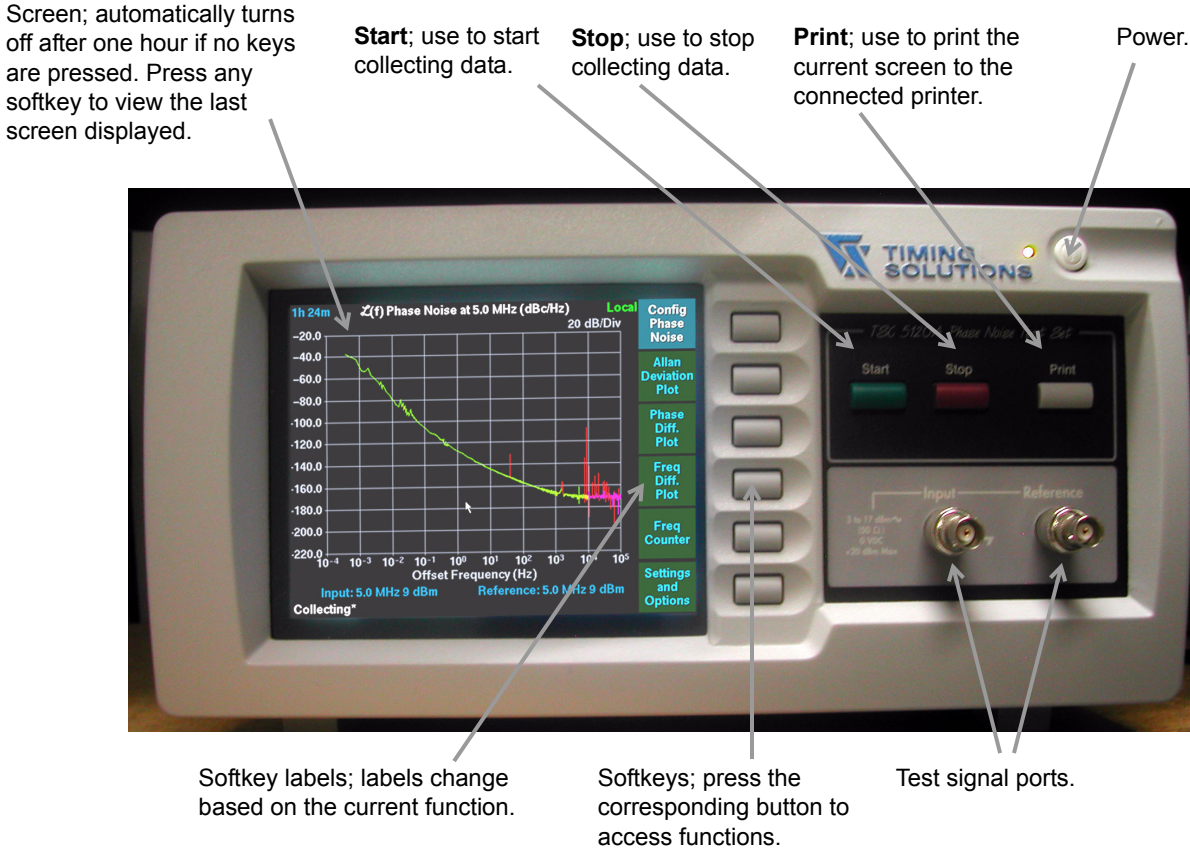
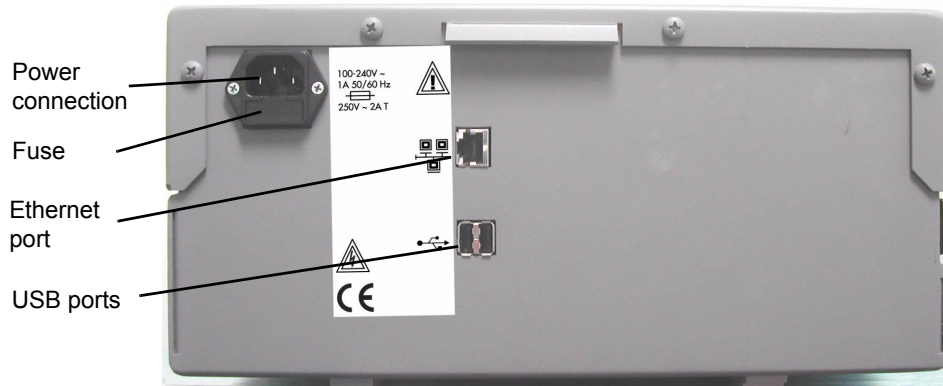
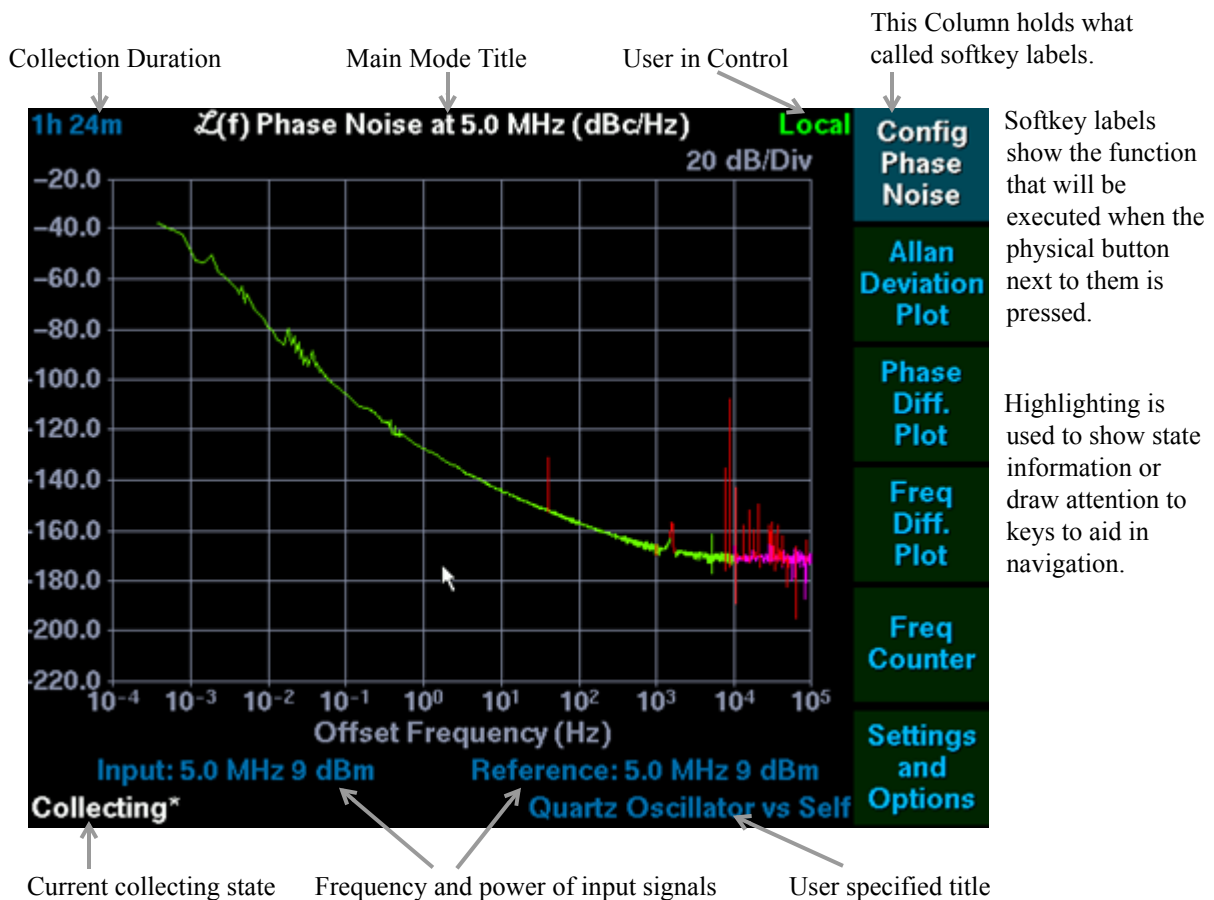
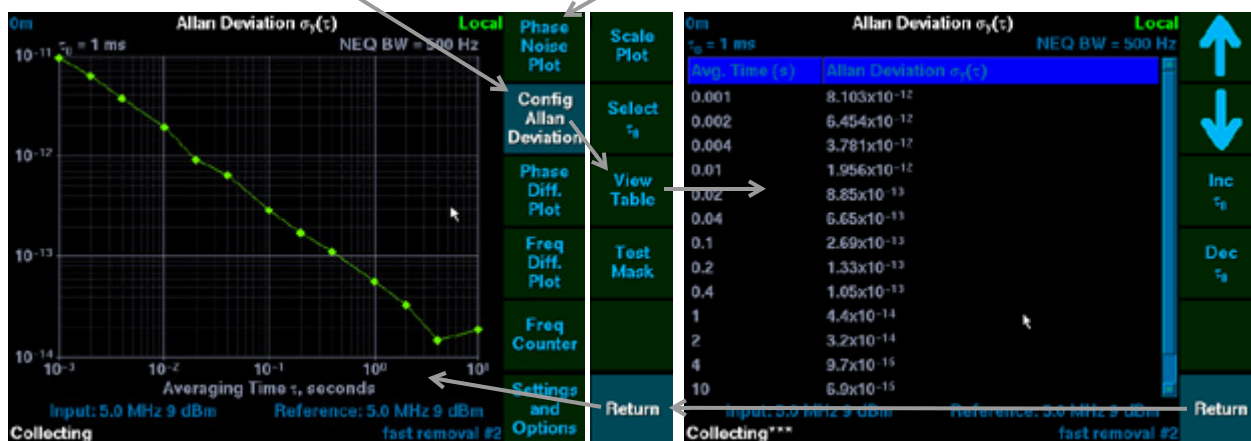

Figure 1: Front panel
Figure 2: Rear panel
Figure 3: Default main screen
Figure 4: Softkey Navigation
Figure 1 shows the test set's front panel, and Figure 2 shows the test set's rear panel.
- When *Ready* displays in the status field (see Figure 3 on page 11 and “3.2.1 Collecting State” on page 13) the instrument is ready for normal operation.
Figure 3 depicts the default screen after the test set has been collecting data for over an hour. It names and describes the major components. These are described in section “3.2 Main Screen Components” on page 13.
The column labeled “softkeys” in Figure 3 mirrors the set of buttons on the test set front panel (Figure 1 on page 4 shows them side by side). The labels indicate the effect pressing the corresponding button will have.
Starting with the phase noise plot as shown in Figure 3, pressing the **Allan Deviation Plot** button would:
Figure 4 shows the flow from the Allan deviation plot, to its table format, and back to the plot.
This manual uses the following convention to describe the softkey-based navigation flow shown in Figure 4 on page 12:
This section provides a description of the main screen components shown in Figure 3 on page 11.
- *Collecting* state is entered once initialization is complete and the test set has begun collecting and presenting data. When *Collecting* state is reached the test set starts displaying measurements and tracking how long it has been collecting. See the top left corner of Figure 3 for an example of the collection duration.
To avoid interference between *Local* and *Remote* users, certain operations and configuration settings require that the user wishing to perform them be in control of the unit (or willing to take control). The user who is in control of the unit is identified in the top right corner of Figure 3. The figure shows that *Local* user has initiated data collection. If a *Remote* user were to issue the stop command, they would receive a warning reminding them that they are not in control of the test set. At this point the remote user can take control from the local user. See “7.2.1 Taking or Yielding Remote Control” on page 57 for details on taking *Remote* control.
A short string shown in the bottom right corner of Figure 3 can be entered using a USB keyboard or set on the network interface. One title may be assigned at a time. The title appears on all printouts and can thus be used to correlate data sets, identify the owner or input signal sources. The title can be up to 34 characters long.
Figure 3 on page 11 and Figure 4 on page 12 are examples of plots. Four of the five main screens are plots. Plots can be configured in various ways described in detail in later chapters dedicated to data set configuration.
There are two types of tables. The first is a read-only table such as the Allan deviation table. The second type is an interactive table. Both types present softkeys which scroll the table up or down as can be seen in the example table on the right side of Figure 4 on page 12. The scroll keys have different effects depending on the type: